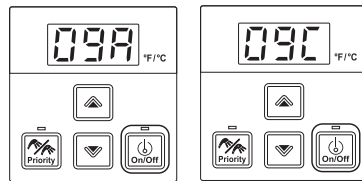

Fig. 3
5. Press the **On/Off** button on the controller to adjust the value of the selected parameter (Fig. 3).